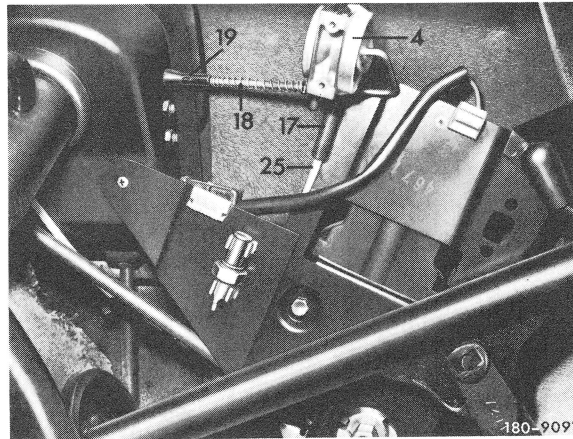

Fig. 3
- 4** Remove bracket (62).
- 5** Pull connection (17) with interlocking line „white” (25) from vacuum element (4) (Fig. 3).
- 6** Pull vacuum element (4) with compression spring (18) out of sleeve (19) (Fig. 3).
- 7** Introduce vacuum element (4) with compression spring (18) into sleeve (19) (Fig. 3).
- 8** Slip connection (17) with interlocking line „white” (25) on vacuum element (4) (Fig. 3).